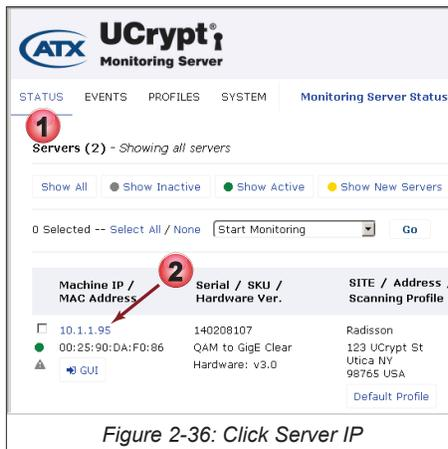

Figure 2-36: Click Server IP
1. Click the **Status** tab if it isn't already selected, Figure 2-36.